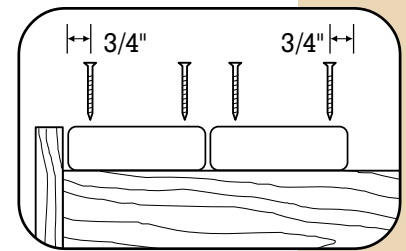

Fig. 14
- Run each screw 3/4" from the outside edge of each plank, using two screws per joist (Fig. 14).